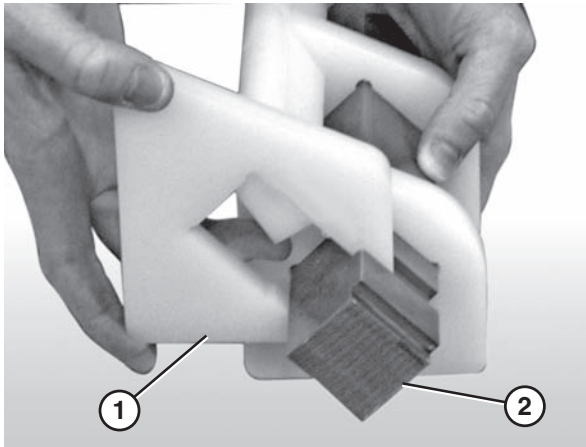

Figure 72
3. Attach the nose bar tracking pucks (**Figure 72, item 1**) to the nose bar drive post (**Figure 72, item 2**).